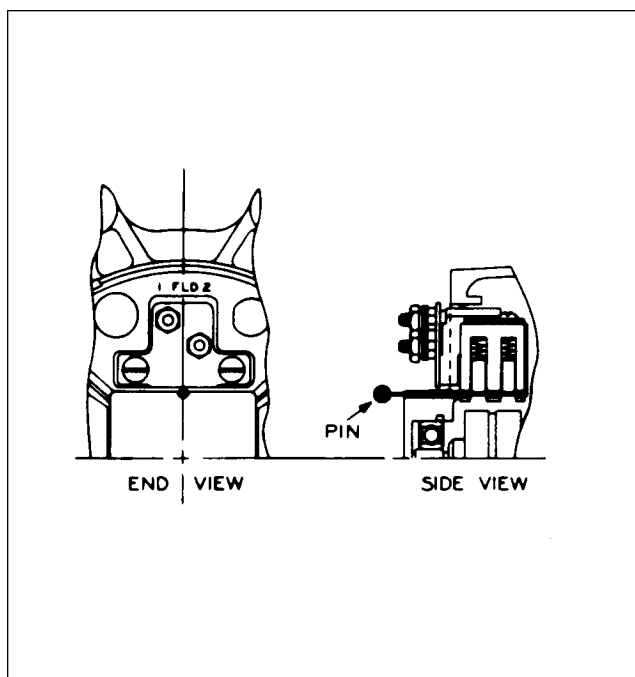

Figure 11-35. Brush Installation
- c. Brushes: These units have a separate brush holder assembly that is installed after the alternator has been assembled. The brush holder has a small hole that intersects the brush cavities. Use a pin or a piece of wire, as shown in Figure 11-35, to hold the brushes in the holder during assembly. Remove the pin after the brush holder retaining screws have been tightened. Make a continuity check to be sure the brushes are seated against the slip rings.